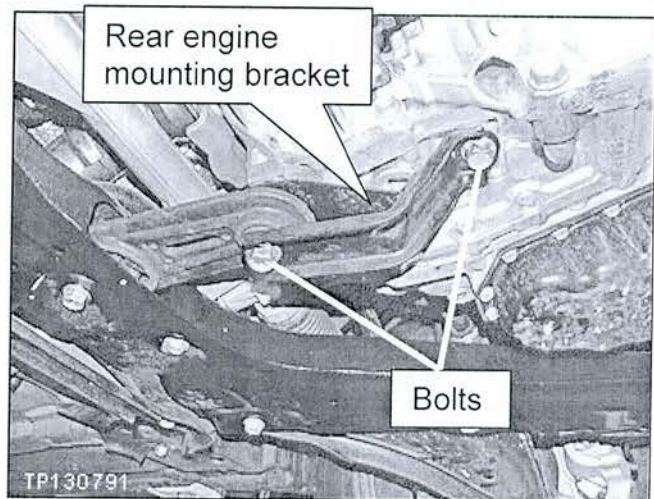

Figure 15
a. Remove 2 bolts shown in Figure 15.